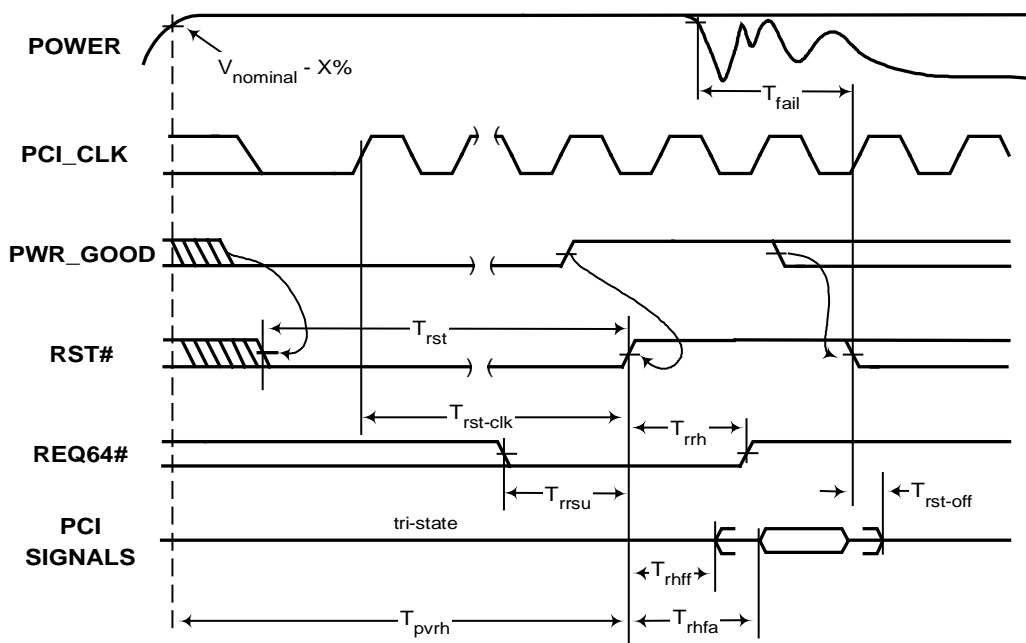

Figure 4-11: Reset Timing34
The system must assert **RST#** during power up or in the event of a power failure. In order to minimize possible voltage contention between 5V and 3.3V parts, **RST#** must be asserted as soon as possible during the power up sequence. Figure 4-11 shows a worst case assertion of **RST#** asynchronously following the "power good" signal.33 After **RST#** is asserted, PCI components must asynchronously disable (float) their outputs, but are not considered reset until both  $T_{rst}$  and  $T_{rst-clk}$  parameters have been met.
Figure 4-11 shows **RST#** signal timing.
**Chapter 4 “Electrical Specification”, Section 4.3.2 Reset, Figure 4-11, page 135:**
Replace Figure 4-11 with the figure shown below: